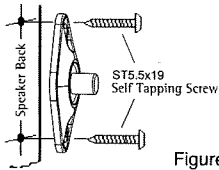

Figure 6
- Drill the pilot hole(s) using a 1/8" drill bit. This hole(s) should not be drilled more than 1/2" deep (Figure 6).